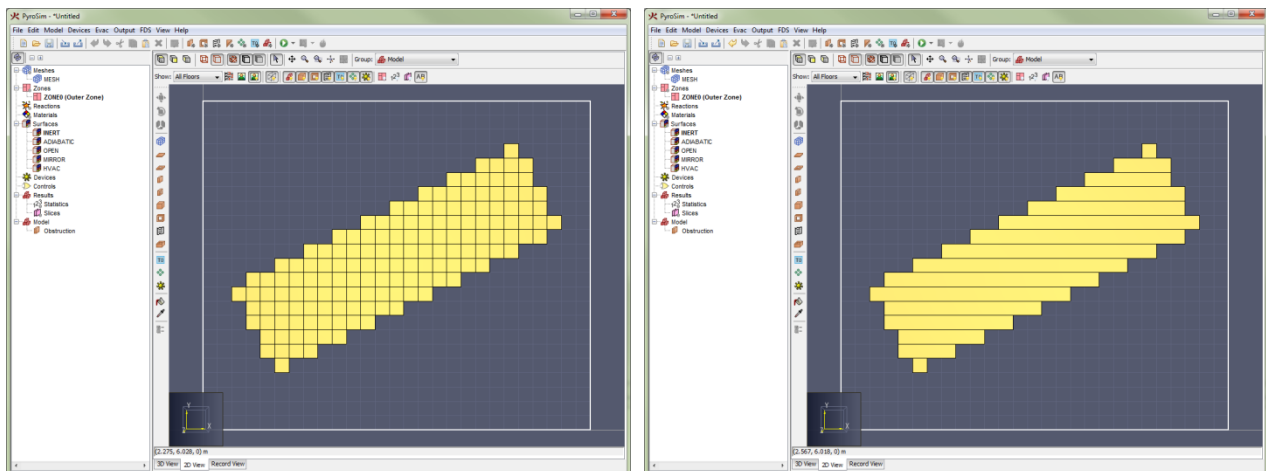

Figure 19.6. Merging converted blocks
- **Block Size:** Controls how large resulting blocks may be. See Figure 19.6.